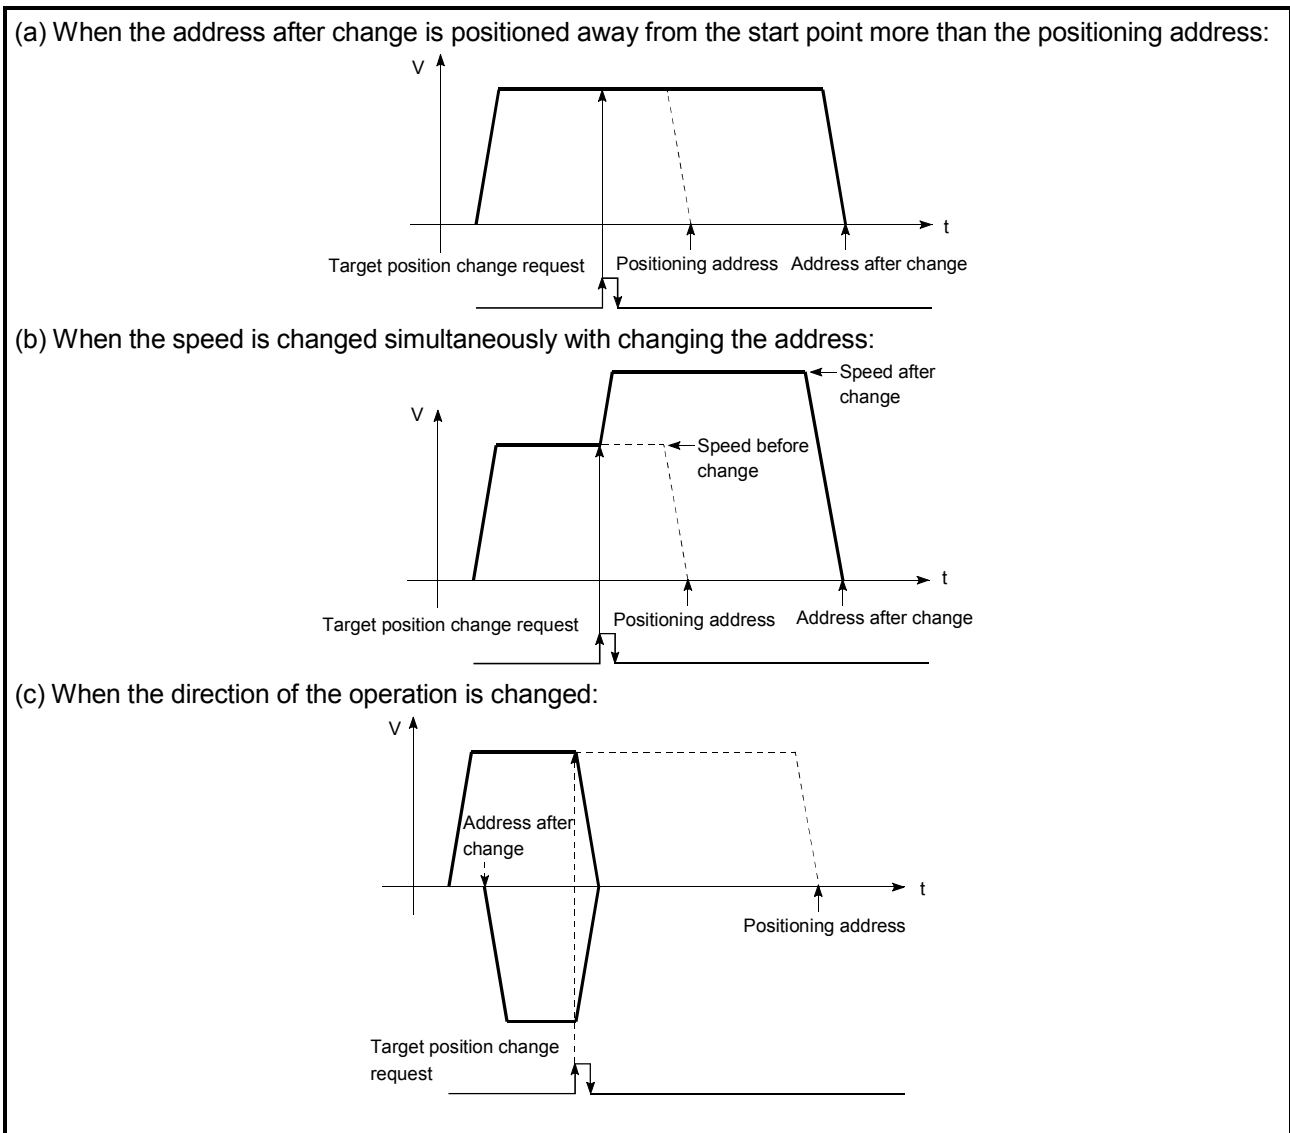

Fig. 13.33 Target position change operation
- (1) If the positioning movement direction from the stop position to a new target position is reversed, stop the operation once and then position to the new target position. (Refer to Fig. 13.33 (c).)
- (2) If a command speed exceeding the speed limit value is set to change the command speed, the warning "Speed limit value over" (warning code: 501) will occur and the new command speed will be the speed limit value. Also, if the command speed change disables the remaining distance to the target value from being assured, the warning "Insufficient remaining distance" will occur (warning code: 509).
- (3) In the following cases, a target position change request given is ignored and the warning "Target position change not possible" (warning code: 518) occurs.
- (4) When a command speed is changed, the current speed is also changed. When the next positioning speed uses the current speed in the continuous positioning, the next positioning operation is carried out at the new speed value. When the speed is set with the next positioning data, the speed becomes the current speed and the operation is carried out at the current speed.
- (5) When a target position change request is given during automatic deceleration in position control, positioning control to a new position is exercised after the axis has stopped once if the moving direction is reversed. If the moving direction is not reversed, the axis is accelerated to the command speed again and positioned to the new position.
- (6) If the constant speed status is regained or the output is reversed by a target position change made while "[Md.48] Deceleration start flag" is ON, the deceleration start flag remains ON. (For details, refer to Section 13.7.8.)